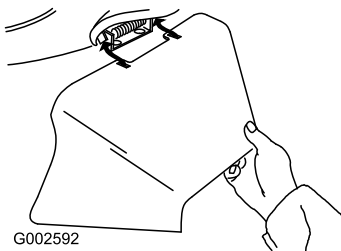

Figure 33
3. Install the side discharge chute and close the door onto the chute (Figure 33).